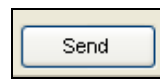

Figure 17.2.30
- Click on the **Send** button to send the Master Valve Override data to the controller (Figure 17.2.30).